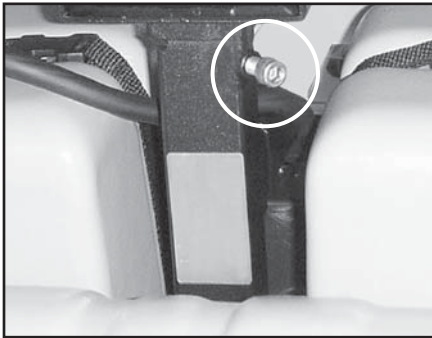

Figure 7F
3. Using the 1/4 inch hex wrench supplied with the vehicle, loosen the cap screw located at the top-front corner of the seat post. (See Figure 7F, page 46).